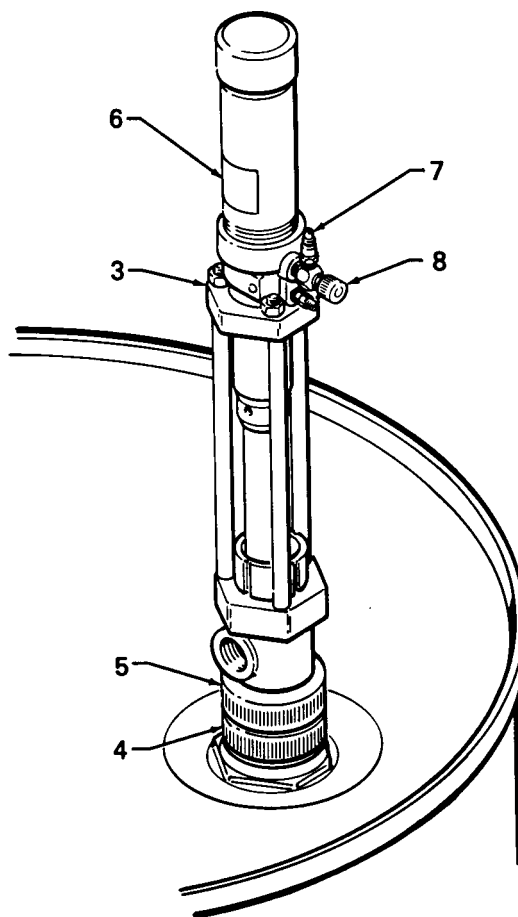

Figure 1
Reference numbers in parentheses in the text refer to the parts shown in the Typical Installation drawing, Figures 1 thru 27, and/or the Parts Drawing.
3. Install the 1:1 ratio feed pumps (3) in 55 gallon drums of ISO and RES.
- a. Screw the bung adapter (4) and pump tightly into the drum cover. Then tighten the nut (5) firmly to complete the airtight seal. See Figure 1.
- b. Separate the two halves of the ISO/RES identification label (6) along the perforation. Clean the surface of the air motor with solvent and apply the appropriate label (RES or ISO). to identify the chemical being pumped. See Figure 1.
- c. We recommend installing an air regulator near the feed pump air inlet to control pump speed. To install, remove the air valve (8) and use suitable adapters and thread sealer on male threads to install the regulator and pin fitting.
4. Mount the Air Dryer (9) in a suitable location near the ISO and RES drums. See the Typical Installation on page 5. Refer to the mounting hole diagram in manual 307-548.
- a. Fill the bowl of the desiccant dryer. Unscrew the ring (10) to remove the dryer bowl. Refer to the Typical Installation. Remove the filter from the top of the bowl and fill the bowl with the desiccant crystals provided with the kit. Reinstall the filter and bowl.
5. Connect an air supply hose (11) from the 1/4" npt quick disconnect coupler of each feed pump to the air manifold (229). See the Typical Installation.
6. Connect an air supply hose (13) between the air inlet of the Air Dryer and the main air supply line. See the Typical Installation.
7. Connect a grounded 1/2" minimum ID main air supply line (14) to the air manifold (229). See the Typical Installation.
The fluid hoses are marked ISO or RES and are oppositely coupled to prevent incorrect connection, which can cause fluid crossover and permanently damage to the hose. Refer to Figure 1.
1. **Connect the corresponding fluid hoses** of each 50' (15.2 m) assembly. See Figure 1.
2. **Gently bend the slack in the heat tape on both sides of the tape connectors** as shown in Figure 1.